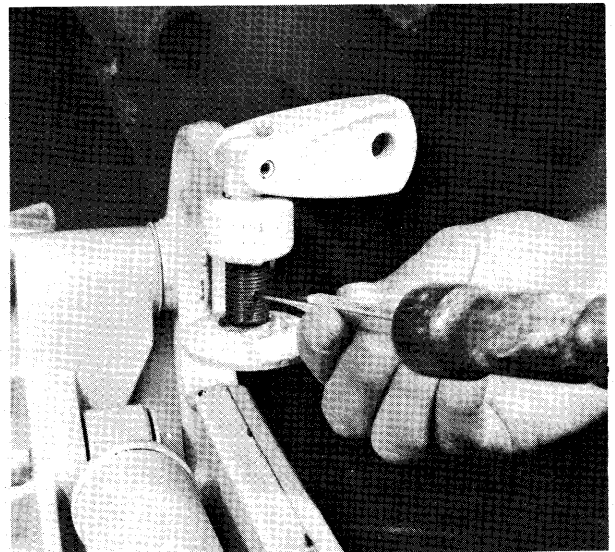

Figure 5—Driving Out Spring Pin
- B. Drive out spring pin securing clamp screw stud and foot to clamp screw as shown in figure 5 and remove stud and foot.